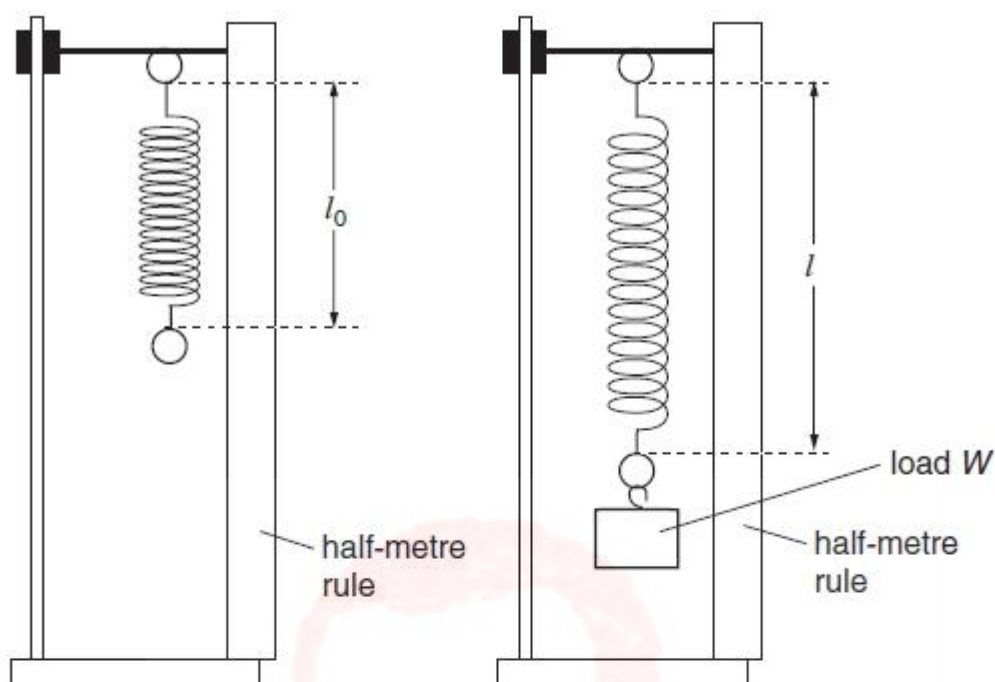

Fig. 1.1
- 1 A student carried out an experiment to find the spring constant of a steel spring. The apparatus is shown in Fig. 1.1.